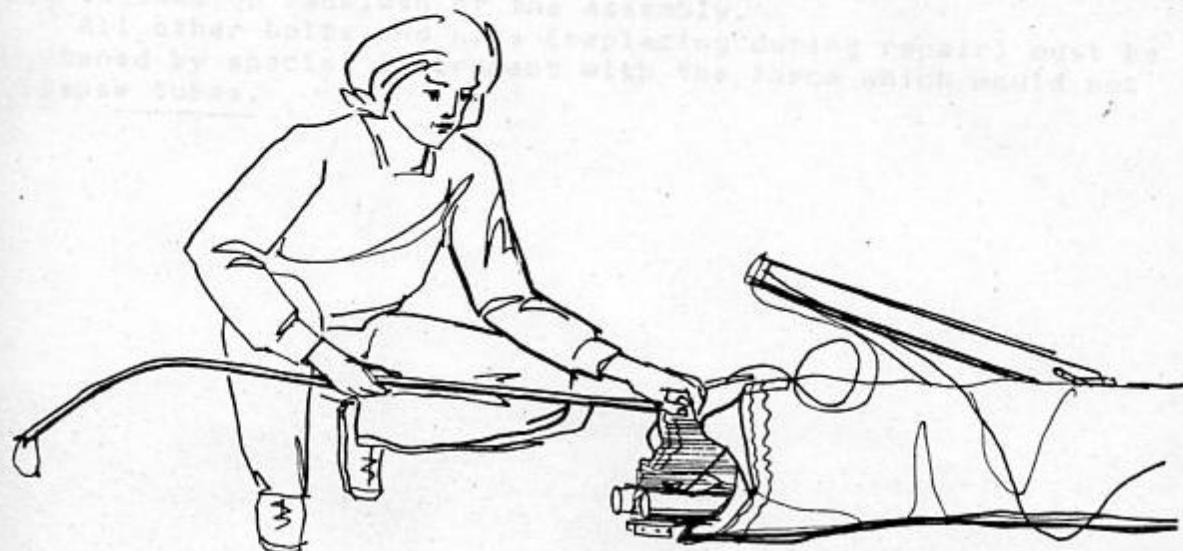

Fig. 3.1.43.
25. Remove the keel batten from the bag. Insert the keel batten from the nose of the sail into the keel batten pocket (Fig. 3.1.43, 3.1.44).